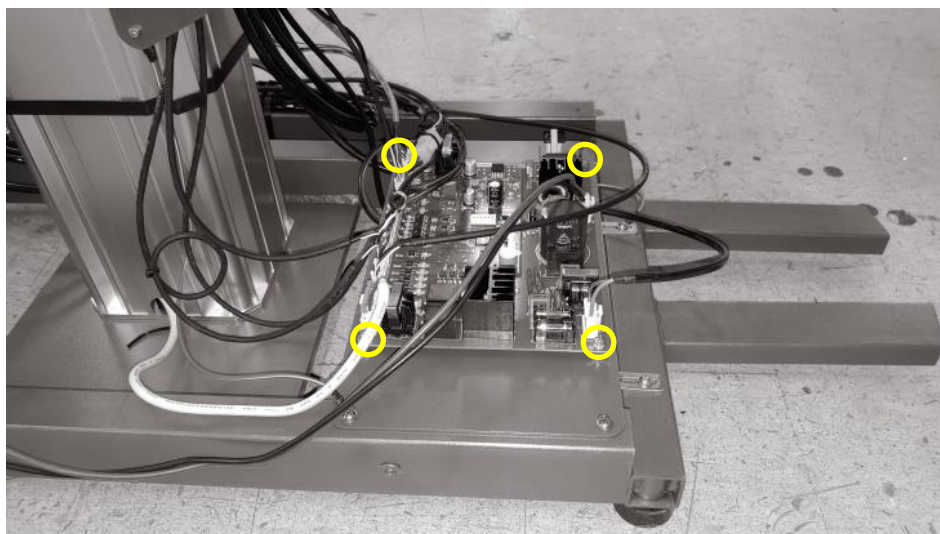

Figure 6.1
3. Remove the four 4 mm bolts (see Figure 6.1).